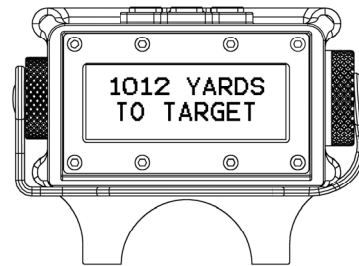

Figure 3-19
3. Press the  button to display the range to the reference object. The distance to the reference object will be displayed as “TARGET RANGE 1012 YARDS” as illustrated in Figure 3-19.